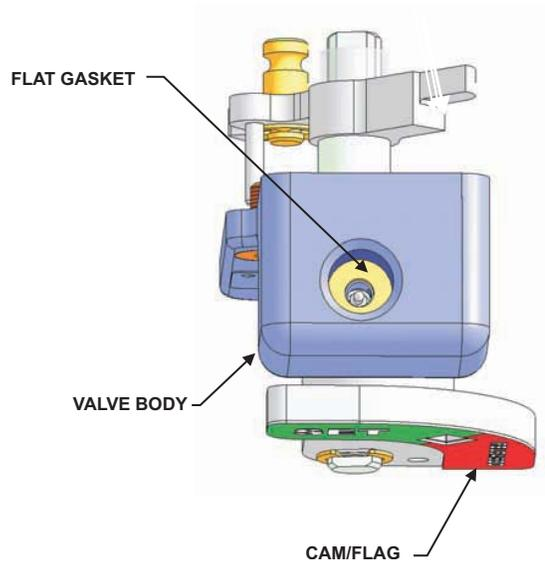

Figure 5-4. Valve Body and Flat Gasket Location
5. Check flat gasket inside valve body. If damaged, replace (see Figure 5-4).